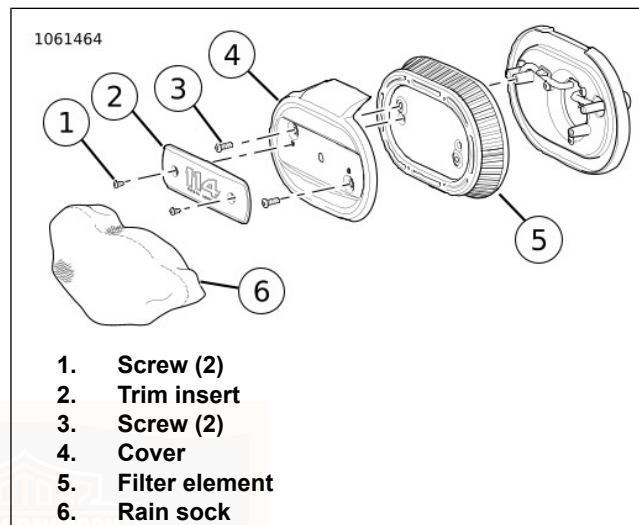

Figure 71. Air Cleaner: Oval
1. See Figure 71. Remove air cleaner trim insert.
- a. Remove trim insert screws (1).
- b. Remove trim insert (2).
- a. Remove screws (3).
- b. Remove cover (4).
- c. Remove filter element (5).
If equipped with oval air cleaner: See Figure 71. In wet or rainy conditions, because the filter element is exposed, water can enter the engine. When parked, water can cause internal engine corrosion or damage. When running, water can cause the engine to misfire. In wet or rainy conditions, install the rain sock (6) over the air cleaner assembly to minimize water intrusion.
1. See Figure 71. Install cover and filter element.
- a. Install filter element (5).
- b. Install cover (4).
- c. Install screws (3). Tighten. 5.7–6.75 N·m (50–60 **in-lbs**)
- a. Install trim insert (2).
- b. Install trim insert screws (1). Tighten. 3–3.6 N·m (27–32 **in-lbs**)